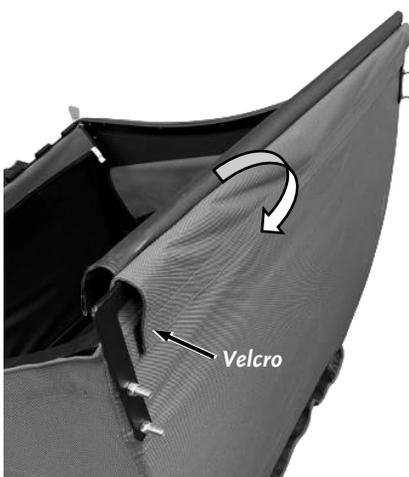

Figure 51
3. Next cover the Outer Link Assembly by wrapping the rear door flap overtop and velcroing it against the back wall (Figure 51).